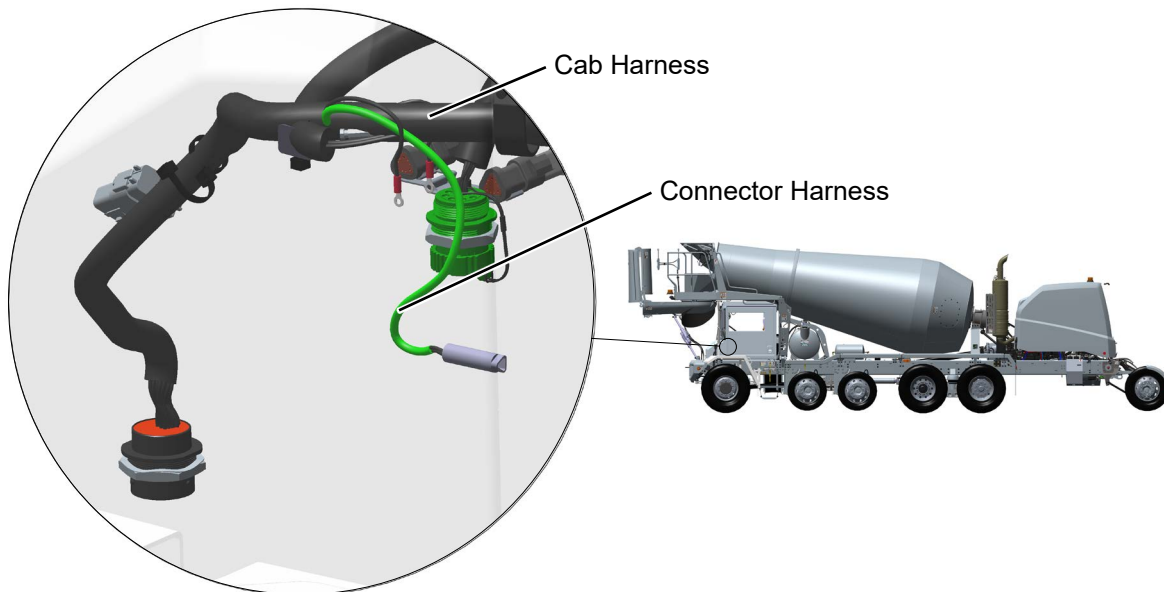

Figure 4
11. Reconnect connector SW217 with connector harness (A001C850) to cab harness. See Figure 4.